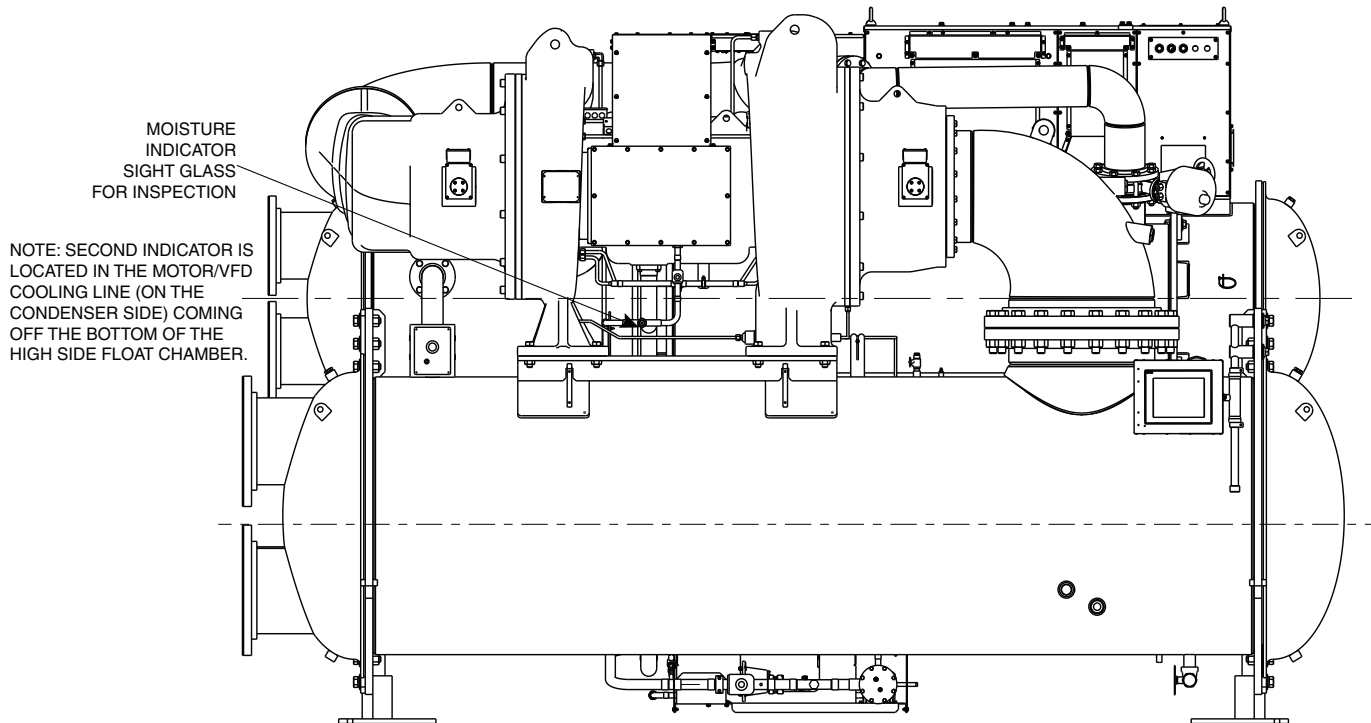

Fig. 41 — Moisture Indicator Sight Glass for inspection
2. Check moisture indicating sight glass on bearing supply line (Fig. 41) as well as on the motor/VFD liquid cooling line (located between vessels feeding of the high side float chamber; sight glass is located downstream of filter drier).